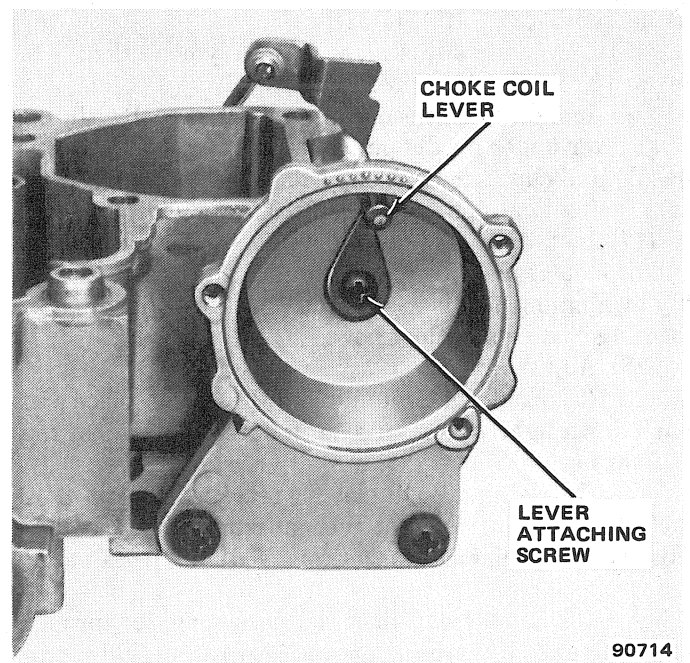

Fig. 1J-48 Model 2SE Carburetor—Installed Choke Coil Lever
(11) With intermediate choke lever in UP (12 o'clock) position, install bimetallic coil lever inside choke housing onto flats on intermediate choke shaft. Coil is properly aligned when coil pick-up tang is at top (12 o'clock) position (fig. 1J-48). Install inside lever retaining screw into end of intermediate choke shaft and tighten securely.